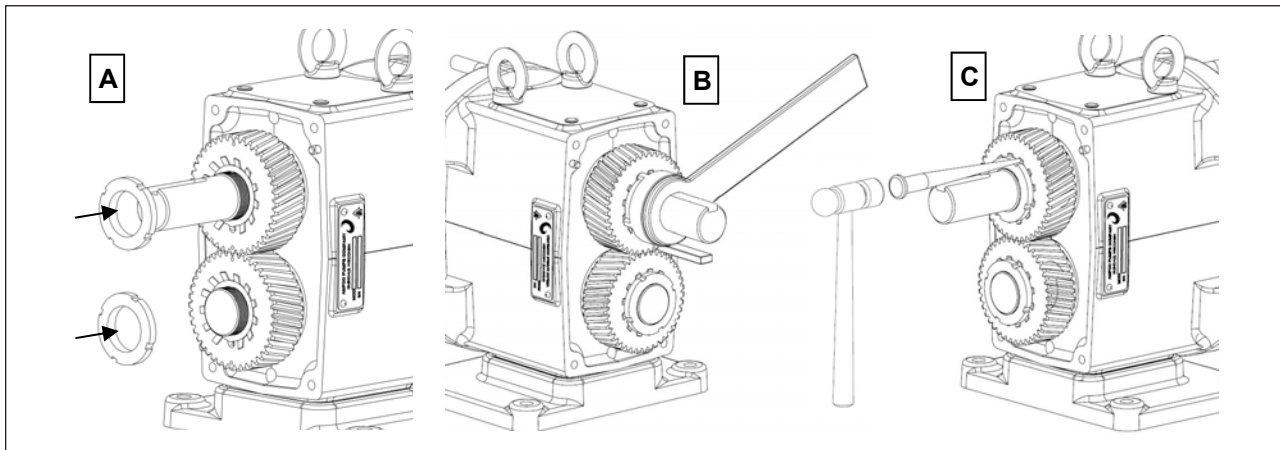
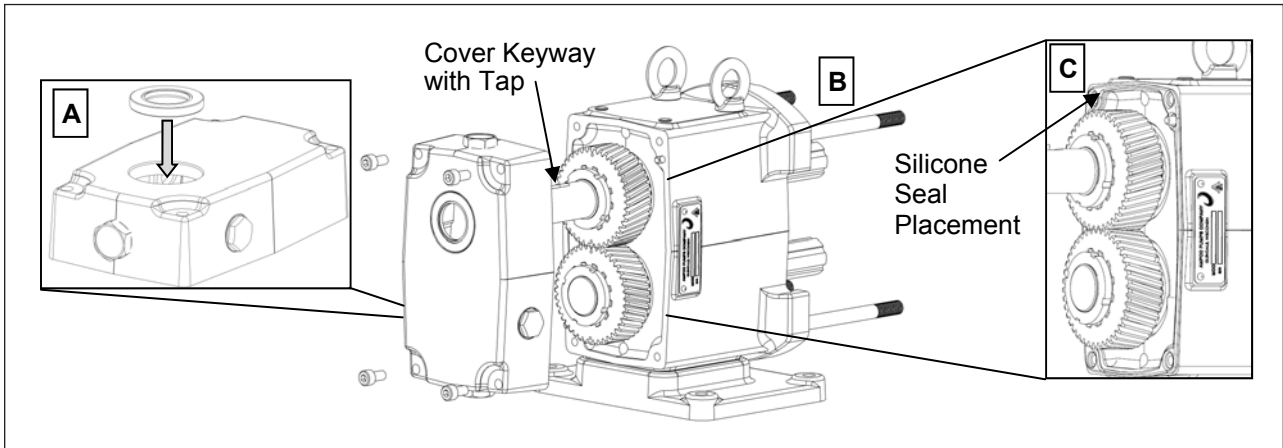

Figure 43. Gear Installation
Figure 44. Gear Case Cover Assembly
2. Using a hammer and a punch, bend the tabs straight on the lock washers (*Figure 43*). Use a wedge (wood or plastic) to prevent the shafts from turning while removing the lock nuts (*Figure 44*). Using a spanner wrench or punch, remove the gear lock nuts. Slowly remove the gears from the shafts. Remove the gear keys and gear spacers from the shafts.